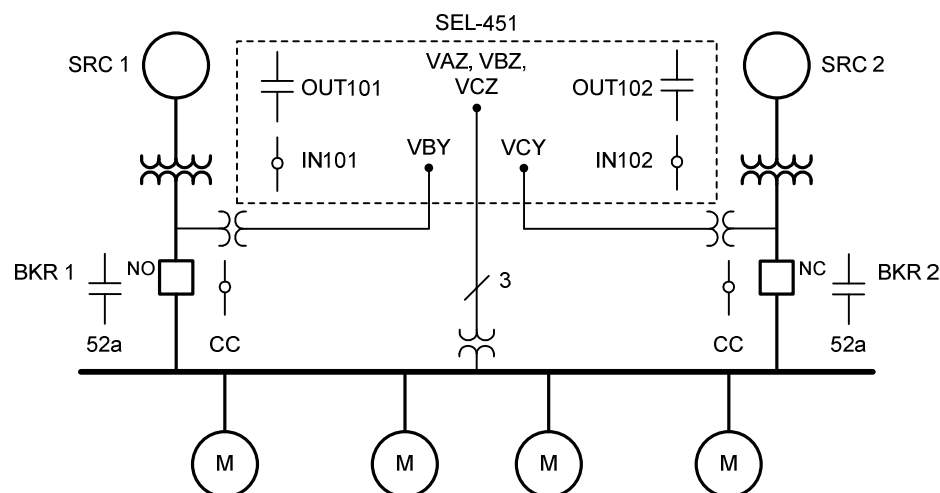
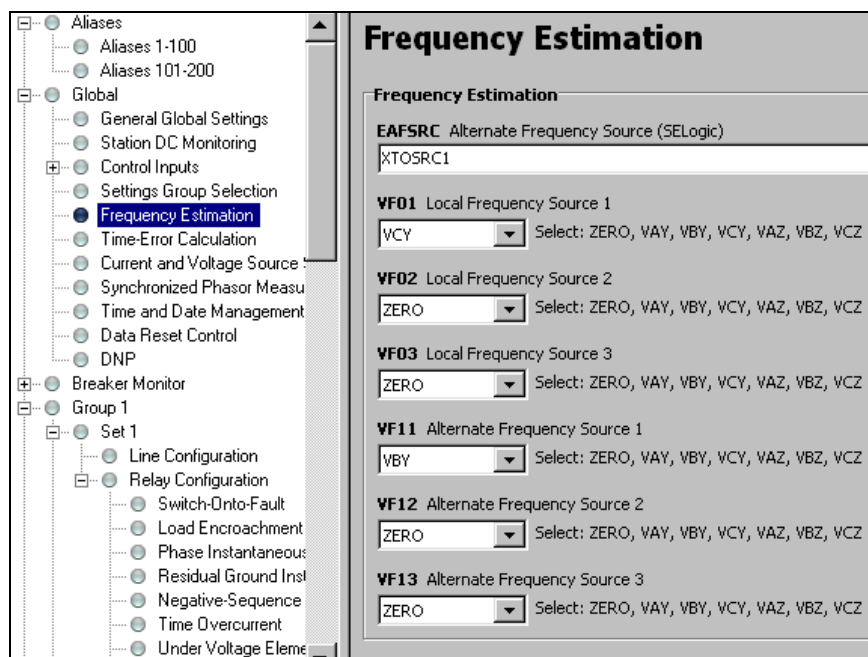

Figure 1 Source Transfer Scheme
Figure 3 Frequency Estimation Settings
Figure 1 illustrates the single-line diagram used to describe the problem and the application in this guide.
In Figure 1, the motor bus is operating from Source 2 (SRC 2) initially. If Source 2 is lost and isolated by manual or protective relaying actions that open the normally closed (NC) Breaker 2 (BKR 2) and if Source 1 (SRC 1) is available, the motor bus should safely and rapidly be transferred to Source 1 by closing the normally open (NO) Breaker 1 (BKR 1). Similarly, if operating conditions are such that the initial source is Source 1, then the transfer involves sending the close command to Breaker 2. The scheme implemented in the SEL-451 contains the necessary logic and measurements to send a close command (OUT101/OUT102) to the close coil (CC) for Breaker 1 (or Breaker 2) to accomplish a motor bus transfer.
Refer to Figure 1, where the voltage inputs are described. The source (1 or 2) measurement is in the VBY and VCY inputs. The motor bus measures the three phases (VAZ, VBZ, and VCZ). For consistency in the frequency measurement, the source voltages need to be the reference because they are strong sources and their frequency does not change drastically over time. The frequency estimation settings in the SEL-451 should reflect those in Figure 3. Single-phase measurement from Phase A is assumed. The signal XTOSRC1 (transfer to Source 1), described in detail in the “Source Selection” section, indicates that VBY will be used when XTOSRC1 = 1 and VCY is otherwise. With this arrangement, there is a solid frequency reference coming from the transfer source.